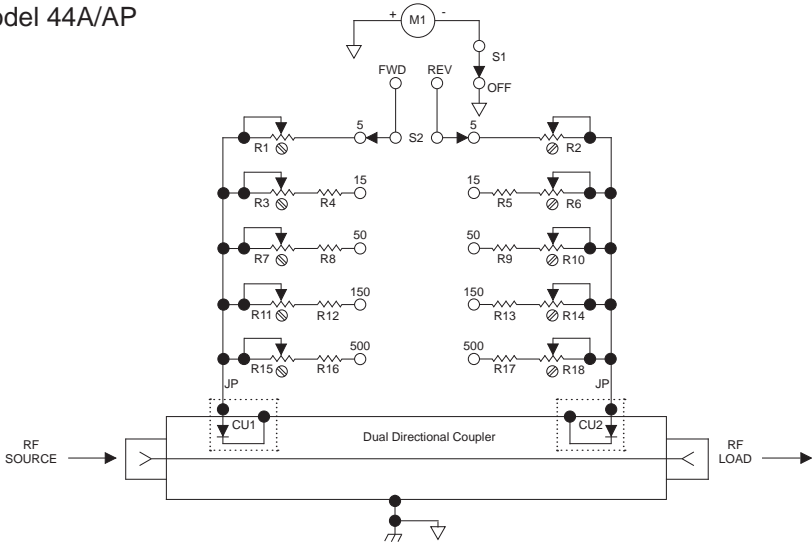

Figure 3-1: Model 44A/AP RF Wattmeter Schematic
- 4.01** The Model 44A/AP Wattmeter is made up of two major sections. Refer to the schematic diagram in Figure 3-1 for this description.